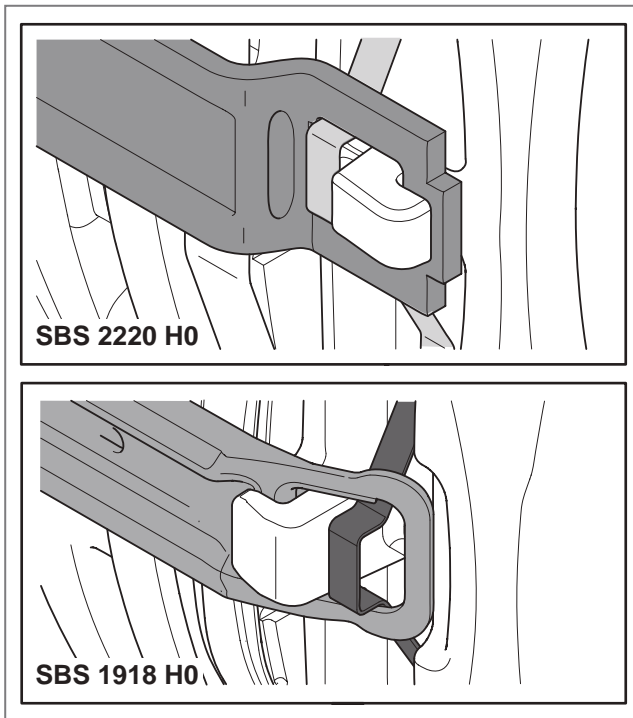

Fig. 75 - Removing the disc brake
1. Refit the old pad retainer by first locating the pad retainer in the housing end in the brake calliper aperture. Then place the rectangular aperture of the pad retainer over the brake calliper seal. Finally, slide the pad retainer under the brake calliper seal until the spring of the brake pad retainer engages in the locking position, see ► Fig. 75.